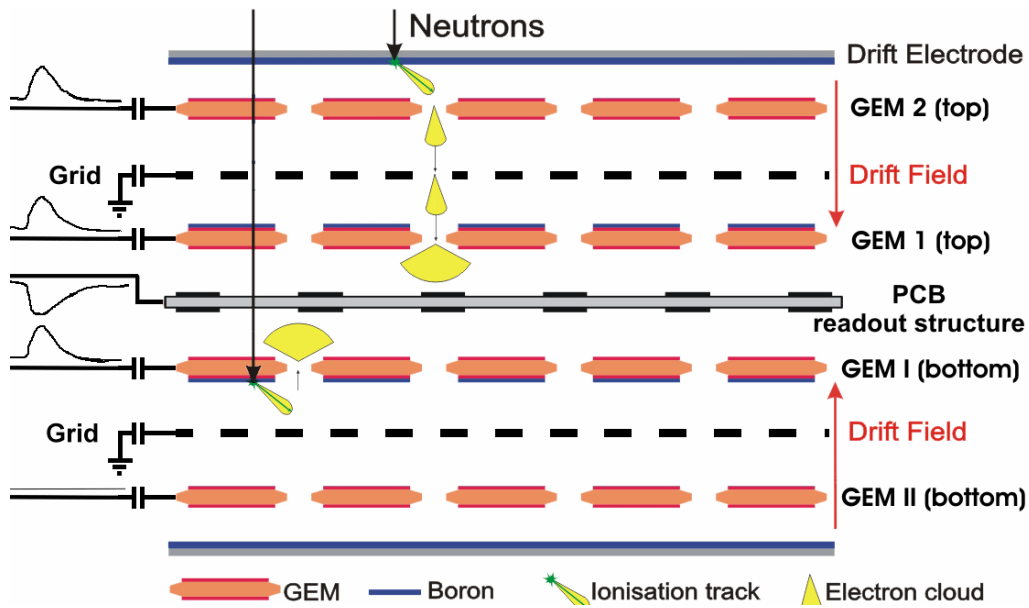

Figure 5.6: Schematic of the CASCADE-MIEZE detector concept and naming scheme of the GEM foils, which are read out through CIPix T.
- 3. T-GEM Multiplexer:** Which readout channel of the CIPix T is used to read out which boron layer on a GEM. The sorting scheme starts with the bottom half-room of the detector starting with GEM I, which is directly located beneath the readout structure followed by GEM II and so on (see Fig. 5.6). The second half of TOF spectra represents the top half-room of the detector starting with GEM 1, which is directly located above the readout structure followed by GEM 2 and so on up to the neutron entrance window of the detector (also see Fig. 2.4).